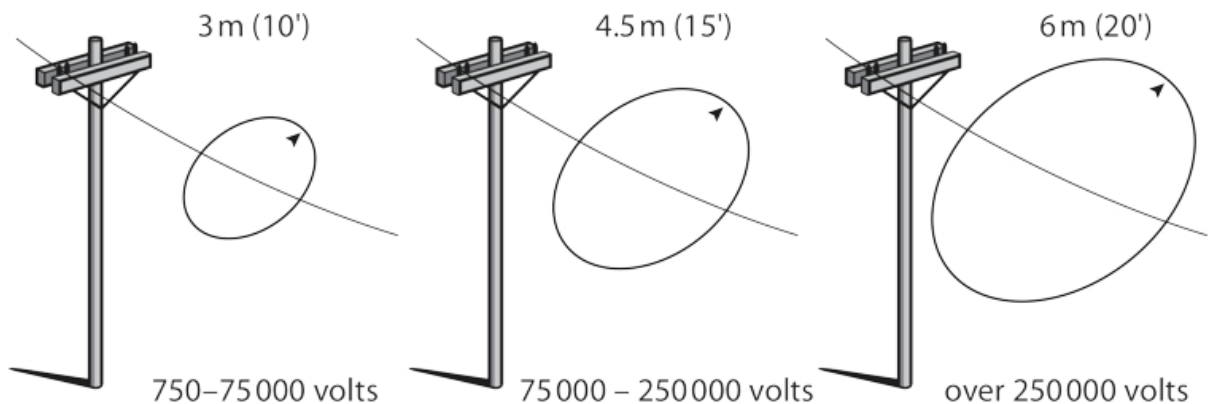

Figure 11 Limits of approach
- Figure 11 Limits of approach by ITA is licensed under a CC BY-NC-SA licence.